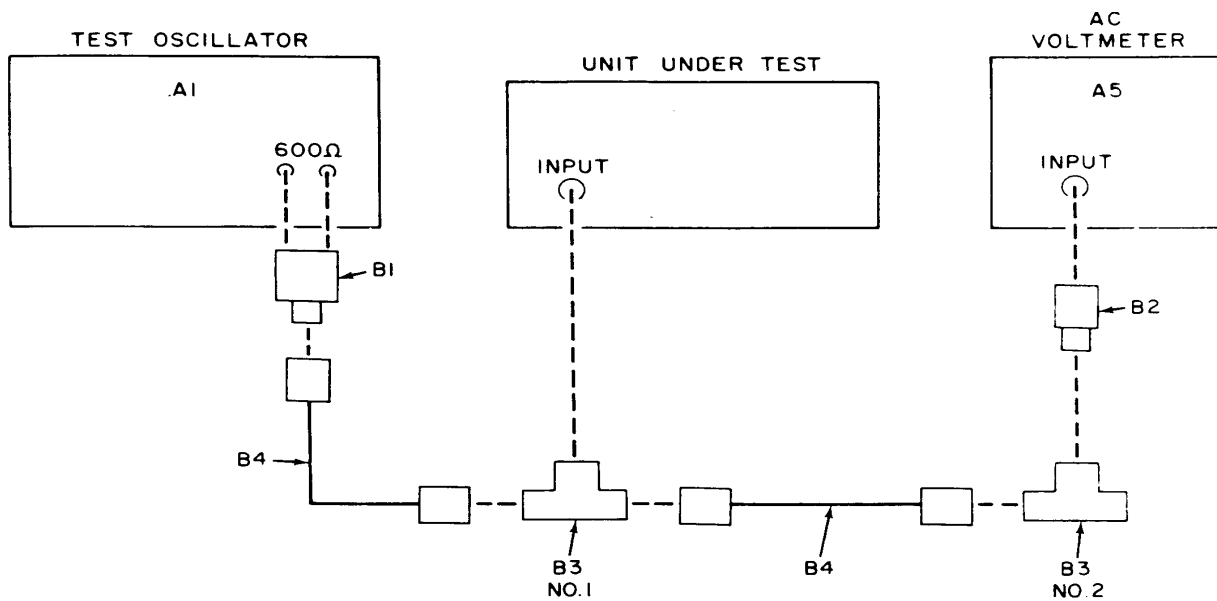

Figure 2. Input sensitivity - equipment setup.
(1) Connect equipment as shown in figure 2.
(2) Turn UUT SENSITIVITY switch to .1 and function switch to FREQUENCY 1.
(3) Adjust test oscillator (A1, table 1) for 1 MHz output.
(4) Adjust test oscillator output level to 0.1 volt as indicated by ac voltmeter (A5, table 1) UUT will display stable count. If not, perform **b(2)** below.
(1) Connect UUT STD connector (rear panel) to adapter (B3, table 2) (No. 2, fig. 2) using cable (B4).
(2) Turn UUT function switch to PERIOD 10K and set STD switch to EXT.
(3) Adjust test oscillator (A1, table 1) output to 1 volt as indicated by ac voltmeter (A5).
(4) Vary test oscillator output frequency between 100 Hz and 1.2 MHz while maintaining 1-volt indication on ac voltmeter. UUT will indicate 10000 through range of 100 Hz to 1.3 MHz.